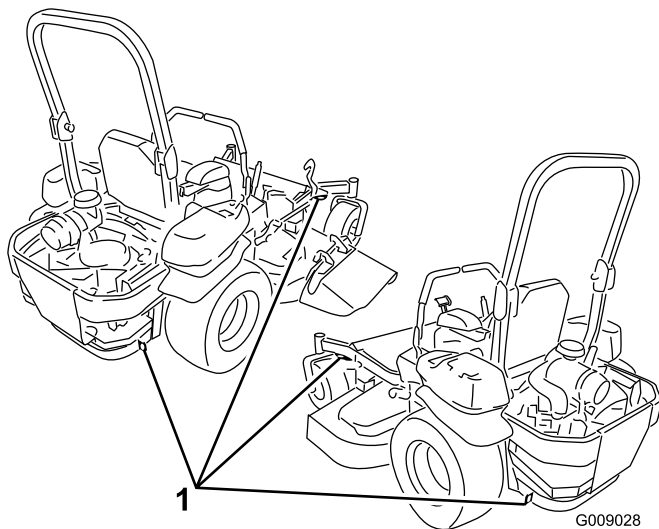

Figure 31
5. Use the metal tie down loops on the machine to securely fasten the machine to the trailer or truck with straps, chains, cable, or ropes (Figure 31).